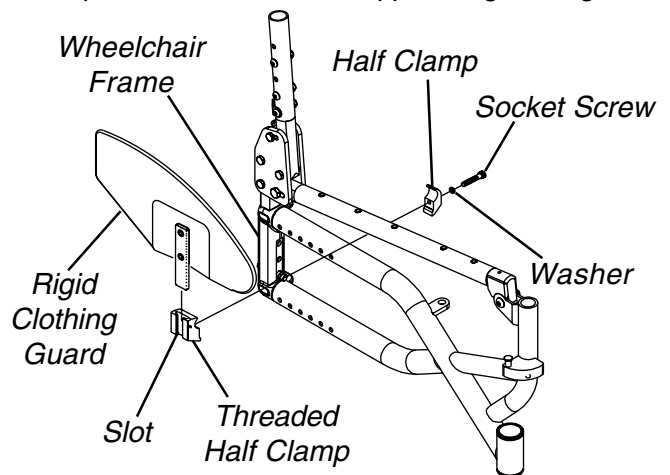

FIGURE 8 - INSTALLING OPTIONAL RIGID CLOTHING GUARDS
INSTALLING OPTIONAL RIGID CLOTHING GUARDS (FIGURE 8)
- Determine the desired rigid clothing guard position and tighten the two (2) half clamps together with the socket screw. Torque to 110-120 in./lbs.
- Insert the rigid clothing guard into the slot on the threaded half clamp as shown in FIGURE 8.